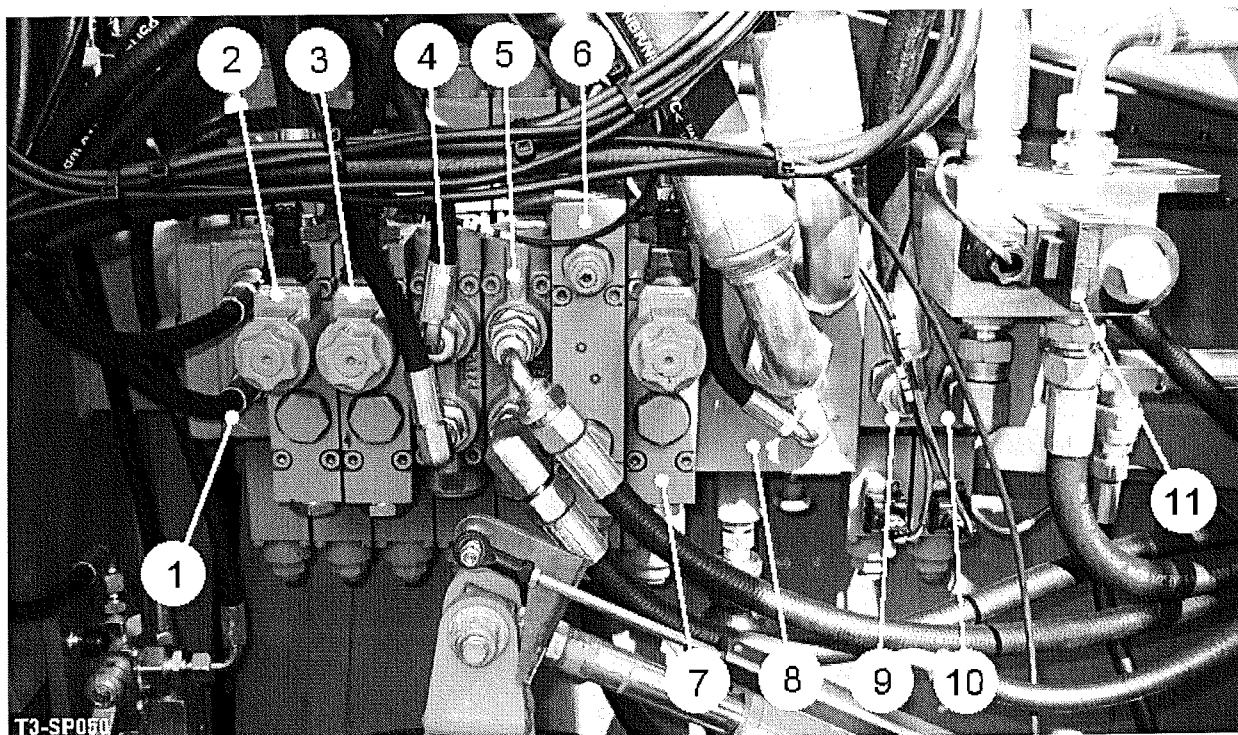
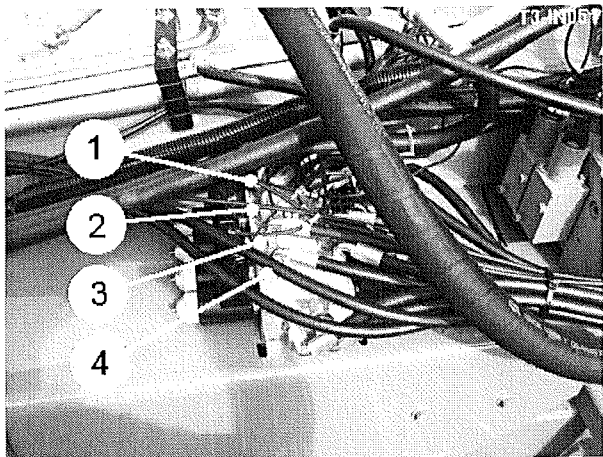
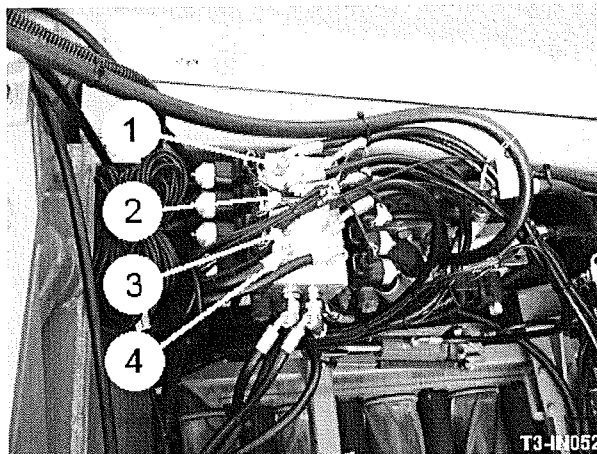

Fig 24
Fig 25
Fig 26
The service terminal button  starts /stops all the elements of the rear section of the harvester. With the service terminal button  on, the joystick button  starts/stops only the elevator web by operating the bypass valve (item 11, fig 24).
The hydraulic ram services and discharge elevator/spreader drives are supplied with hydraulic oil from the tractor. A minimum supply of 50 litres/minute is fed through the pressure filter (item 1, fig 36) into the inlet section of the auxiliary valve bank (see fig 24). The system will accept up to 80 litres/minute maximum. The flow rate of all the valves are proportionally controlled from the electrical system and are adjustable via the service terminal. Additional ram services are powered by the master valve section via slave valves. The slave valve (see fig 25) operates the drawbar, web split, wheel tracking ram and machine level. The slave valve (see fig 26) operates the 1st and 2nd Omega separator angles and clod roller heights. The elevator valve section at the rear of the auxiliary valve bank powers the discharge web and spreader motors. The elevator/spreader valve has priority over the ram service valves. The flow rate for the spreader is adjustable independently up to the flow set for the elevator. The return oil flow from the valves and motors recombines and is returned to the tractor, ideally through a low back pressure or free-flow return coupling. No separate relief valve is fitted to the auxiliary circuit, the system relies totally on the tractor relief valve.